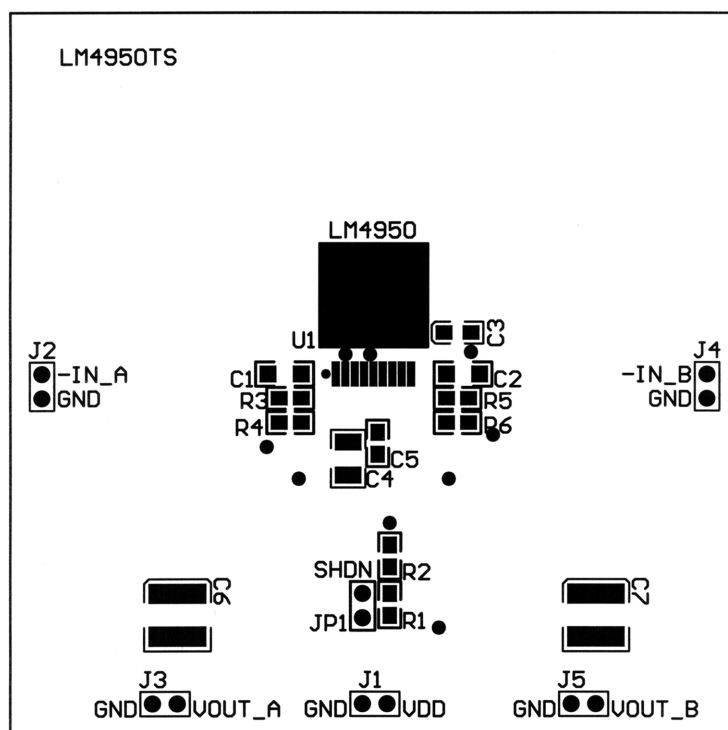

Figure 67. Recommended KTW SE PCB Layout:
Figure 67 through Figure 69 show the recommended two-layer PC board layout that is optimized for the DDPAK-packaged, SE-configured LM4950 and associated external components. Figure 70 through Figure 72 show the recommended two-layer PC board layout that is optimized for the DDPAK-packaged, BTL-configured LM4950 and associated external components. These circuits are designed for use with an external 12V supply and 4Ω(min)(SE) or 8Ω(min)(BTL) speakers.